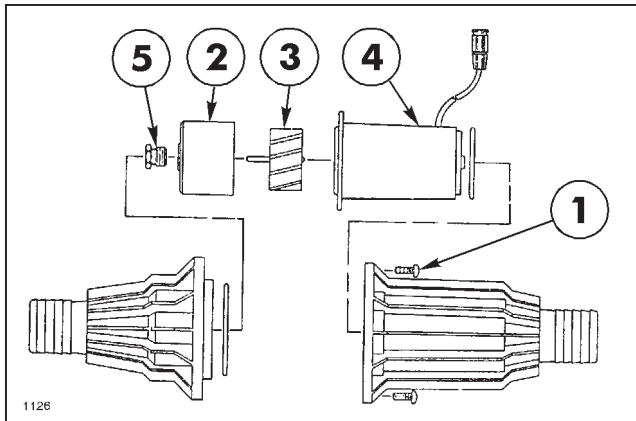

FIG. 9
3. Remove flange bolts from the Flow Meter. See FIG. 9.